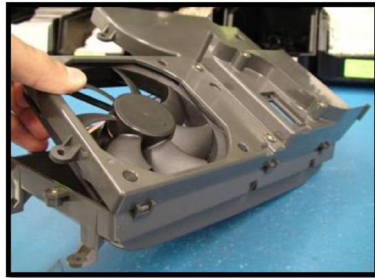

Figure 7 Duct Assembly
9. Hinge the middle and bottom ducts together as shown in Figure 7 with the 3 hinge points at 45 to 60 degree angle.